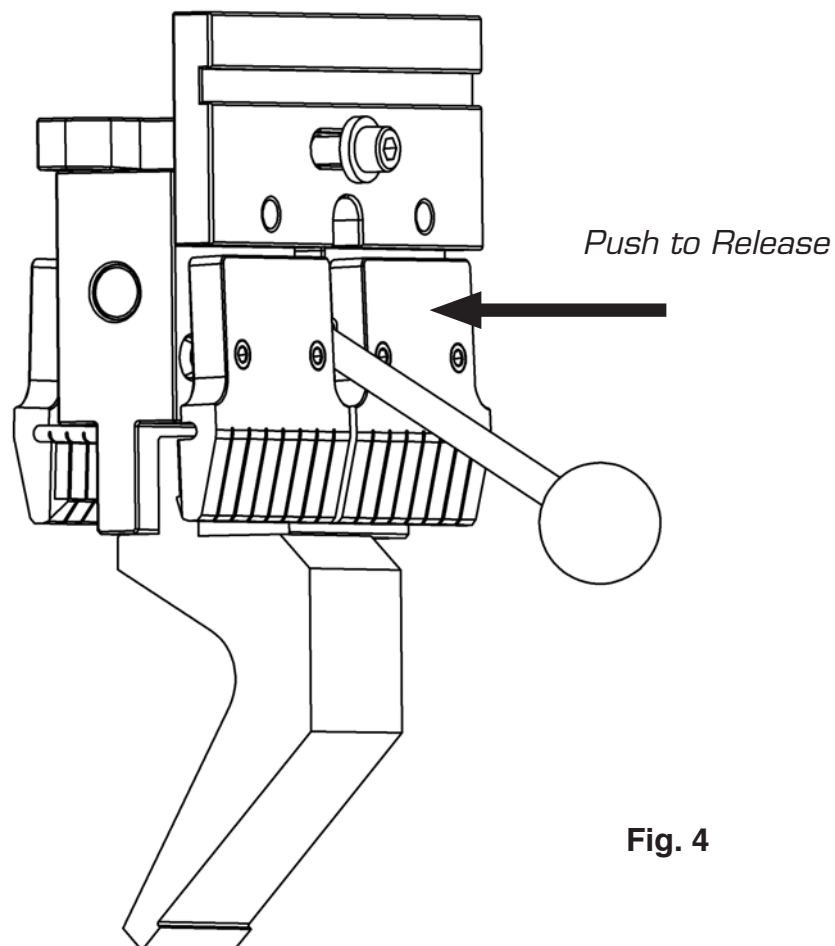

Fig. 4
2. Hold onto the punch, press the area of the clamp marked “push to release.” Sectionalised punches may then be removed from the bottom of the holder. (Fig. 4)